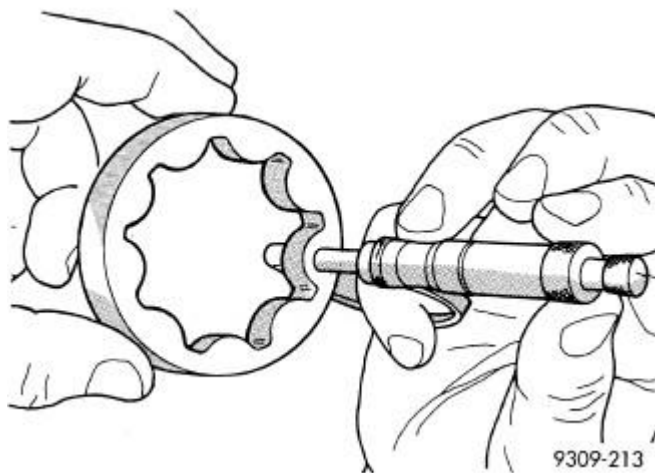

Fig. 175: Measuring Outer Rotor Thickness
3. Measure thickness and diameter of outer rotor. If outer rotor thickness measures 7.64 mm (0.301 in.) or less, or if the diameter is 79.95 mm (3.148 in.) or less, replace outer rotor. Refer to **Fig. 175**.